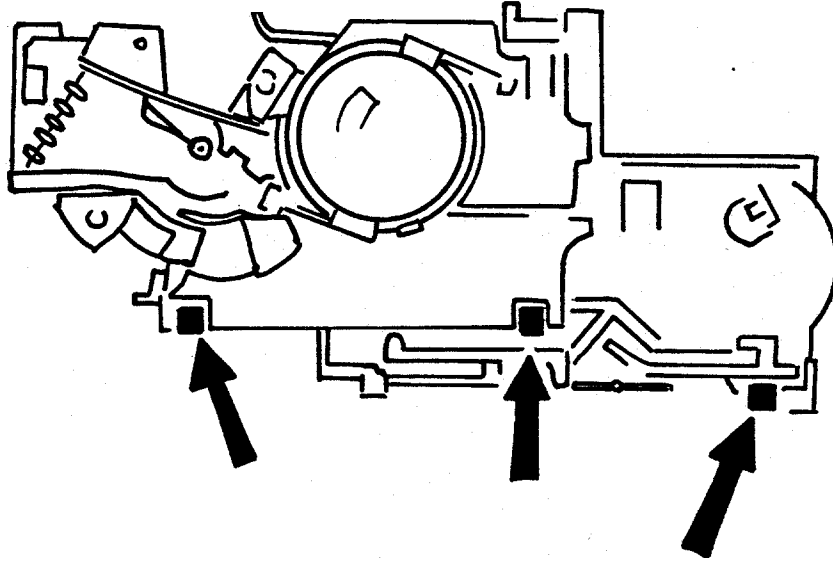

Fig. 35 Replacing the Lens Mounting Plate
39. Replace the Lens Mounting Plate by placing the two tabs at the top into their corresponding openings in the Base Block (Fig. 35). Tilt the Plate downward into position, making sure the Inertia pivot post enters its hole in the Base Block. Snap the three locking tangs closed at the bottom of the Plate.